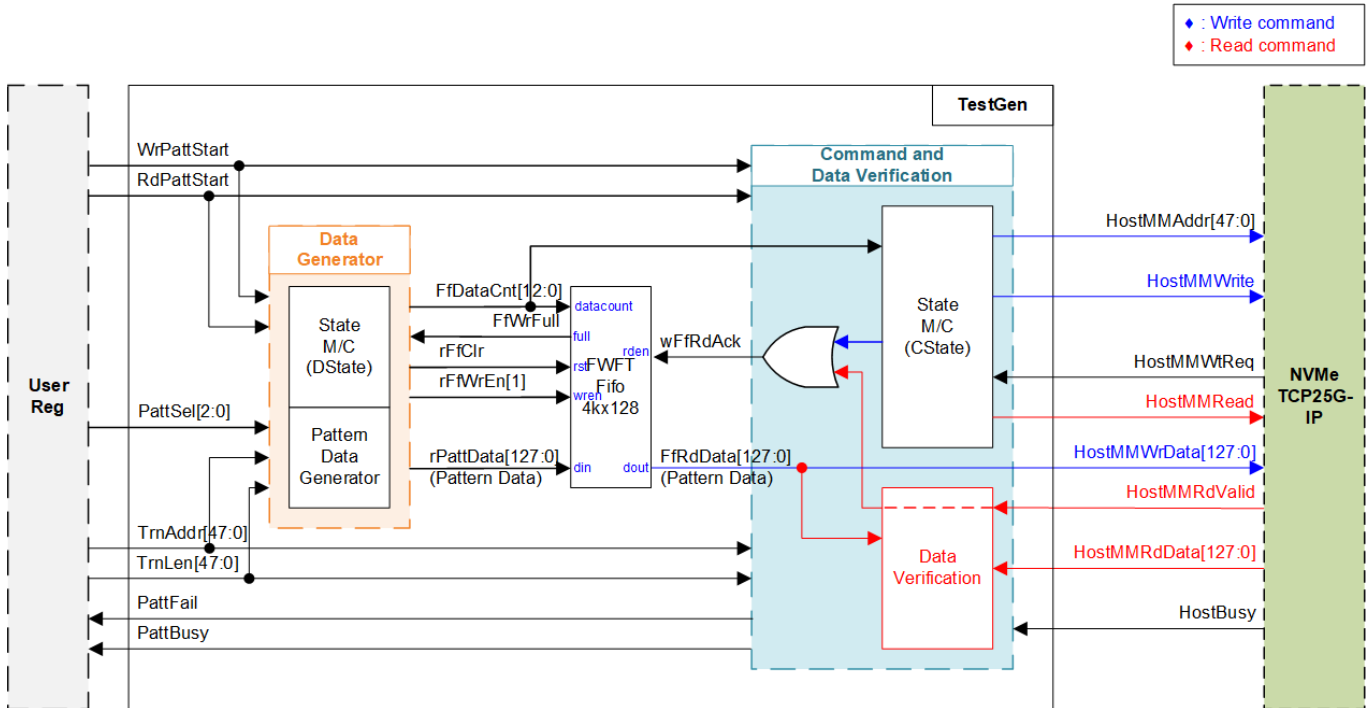

Figure 2-2 TestGen Interface
- (1) stCIdle: This state is designed to wait Write or Read Request (WrPattStart or RdPattStart) from user. When user starts the test along with test parameters, i.e., total transfer size (TrnLen: 512-byte unit), start transfer address (TrnAddr: 512-byte unit), and test pattern (PattSel), the logics load the first value from test parameters. Moreover, PattBusy is asserted to '1' to indicate that the test is running. If user starts the reading test by asserting Read Request (RdPattStart), state continues to stCRdTrn (2). On the other hand, if user starts the writing test by asserting Write Request (WrPattStart), state continues to stCWrWt (3).
- (2) stCRdTrn: In this state, Read Command (HostMMRead) is sent to NVMeTCP25G-IP in HostMM interface along with the start read address (HostMMAddr) of each 8-Kbyte transferring. After sending the last Read Command, state continues to stCWtEnd (6) to wait until all read data is returned and IP finishes the operation.
- (3) stCWrWt: This state is designed to wait until data is enough in FIFO via checking FIFO Data Counter (FfDataCnt). If the data in FIFO is more than or equal to 8 Kbytes (1 burst size), state continues to the next step.
- (4) stCWrTrn: This state is designed to read 8-Kbyte FIFO data and send them out as Write Data (HostMMWrData) to NVMeTCP25G-IP along with the Write Command (HostMMWrite). When write command and write data are received (HostMMWrite='1' and HostMMWtReq='0'), FIFO Read Enable (wFfRdAck) is asserted to read the next data from FIFO. The FIFO Read Data (FfRdData) is bypassed to be HostMMWrData (as shown in Figure 2-2). At the first clock cycle of this state, the first 128-bit Write Data (HostMMWrData), the address (HostMMAddr), and Write Command (HostMMWrite) are sent to the IP. After the 511th of 128-bit Write Data (HostMMWrData) is sent to the IP, state continues to the next step.
- (5) stCWrChkFf: This state is designed to send the last 128-bit Write Data (HostMMWrData) of the current 8-Kbyte transferring. Moreover, state machine checks data amount in FIFO via checking FIFO Data Counter (FfDataCnt) for next 8-Kbyte bursting decision. After the last 128-bit Write Data (HostMMWrData) of the current 8-Kbyte transferring is sent, state exit choices are considered as follows.
- a. If the current 8-Kbyte Write Data is not the last 8 Kbytes of the Write Command and data amount in FIFO is not enough for the next round, state continues to stCWrWt (3) to wait until Data Generator fills more data to the FIFO. This state transition triggers the logics to de-assert Write Command (HostMMWrite) to '0'.
- b. If the current 8-Kbyte Write Data is not the last 8 Kbytes of the Write Command and data amount in FIFO is enough for the next round, state continues to stCWrTrn (4). This state transition allows the logic to start sending the next 8-Kbyte data continuously after finishing transferring current 8-Kbyte data without de-asserting Write Command (HostMMWrite) to '0'.
- c. If the current 8-Kbyte Write Data is the last 8 Kbytes of the Write Command (indicated via rMMLenCnt), state continues to stCWtEnd (6). Also, Write Command (HostMMWrite) is de-asserted to '0' to end the writing test.